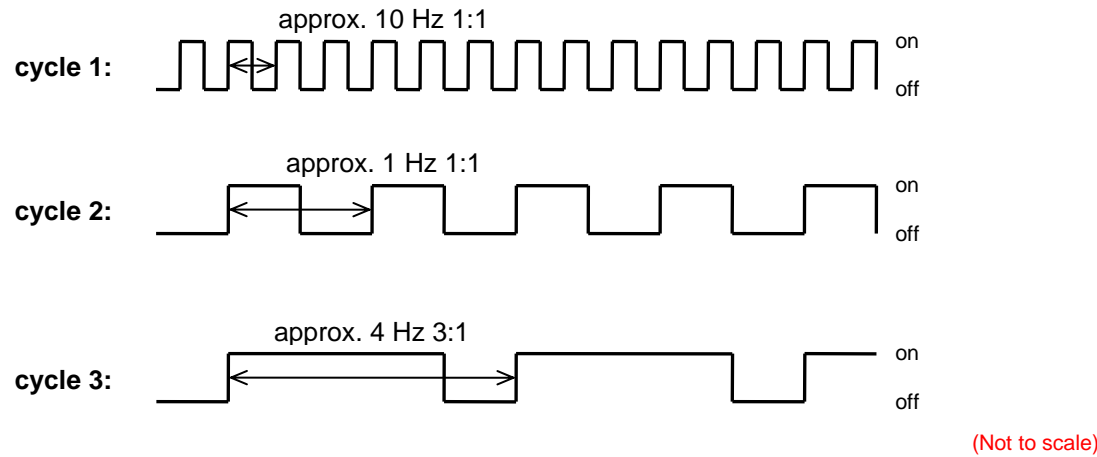

Figure 20: Blink cycles of the state LED
The state of each CAN-channel on the USB-CANmodul is displayed via a red LED. In order to distinguish the states, different blinking cycles were defined respectively. A description of the power LED and the state LED is shown in the Table 10. Figure 20 shows the different blinking cycles.
- 14) Connect the USB-CANmodul to your computer using the included USB cable. Windows automatically detects the USB-CANmodul. The appropriate driver files will be found automatically. The firmware will now be downloaded to the USB-CANmodul. The red status LED blinks with a frequency of 4 Hertz 4:1 duty cycle to indicate this firmware update procedure (refer to Figure 20 and Table 10).